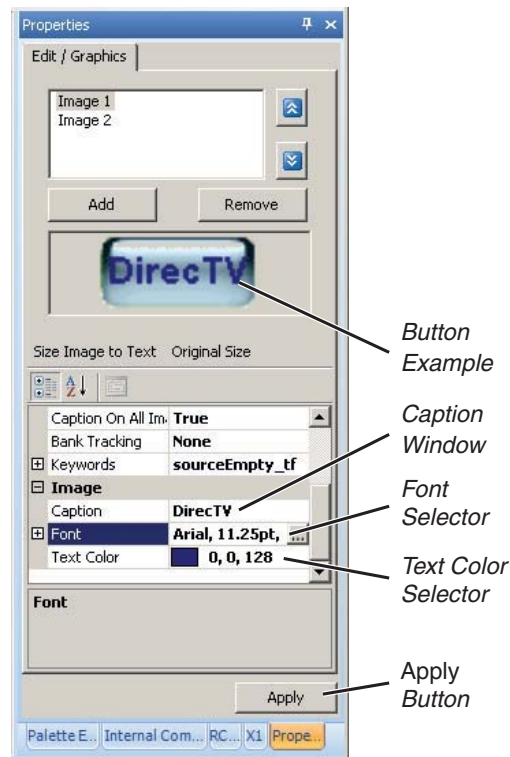

Figure 41: Edit/Graphics Window Text Tools
2. Click the cursor in the caption window and type the text you want to appear on the selected button. After typing the text, click the cursor outside of the caption window and the text will appear in the button example (see Figure 41).
3. Use the font selector and text color selector to change the font style and size and text color of the button text in the button example (see Figure 41).